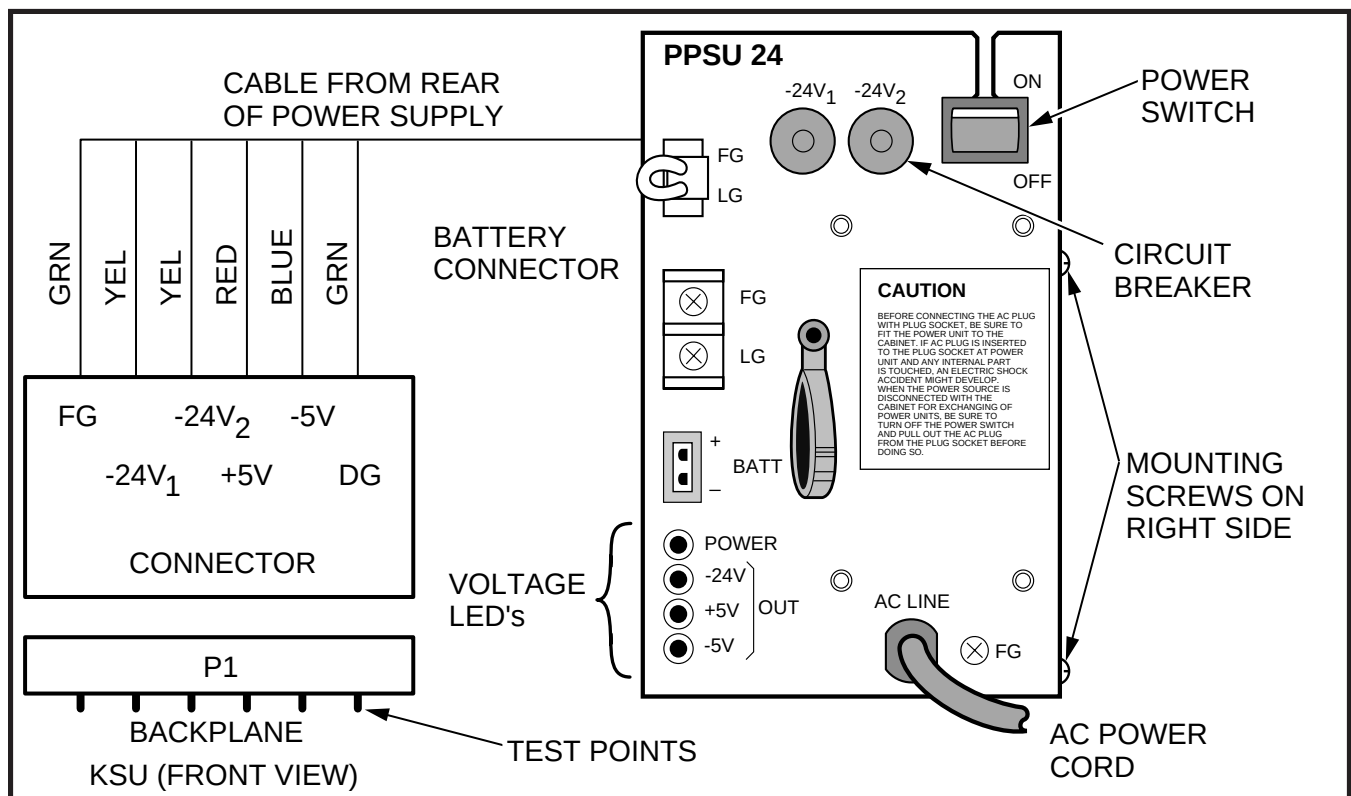

FIGURE 5-3
- 4) Using a multimeter (set to the appropriate range), measure the voltages at the pins of the **DC OUT** connector for DK56/DK96 or the **P1** backplane connector for DK24 as shown in Figures 5-3, 5-4, or 5-5. Ensure that the voltages fall within the ranges specified. If a measured voltage falls outside of the acceptable range, remove the DC power plug from the power supply **DC OUT** connector (DK56/96) or **P1** backplane connector (DK24) and measure again. If a measured voltage is still unacceptable, replace the power supply. (Refer to Paragraph 4.)
4.11 DK24. Refer to Figure 5-3 and remove the power supply in accordance with the following steps:
4.21 DK24. Refer to Figure 5-3 and replace the PPSU24 in accordance with the following steps: